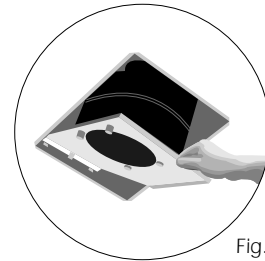

Fig. 3
- After you have installed the housing in the ceiling, run ducting from the unit to the outside and have made the necessary electrical connections you can reinstall the light housing, venturi and blower in the fan housing (fig. 3). Plug the fan's blower assembly into the fans receptacle before you lift the venturi/blower assembly up into position and secure the venturi using the screw removed earlier. Plug the light housing into the intended wiring harness after the venturi is secure. Rotate the blower wheel by hand to ensure it revolves freely. Install a 100 watt bulb max. and a 7 watt bulb max. for night lighting.